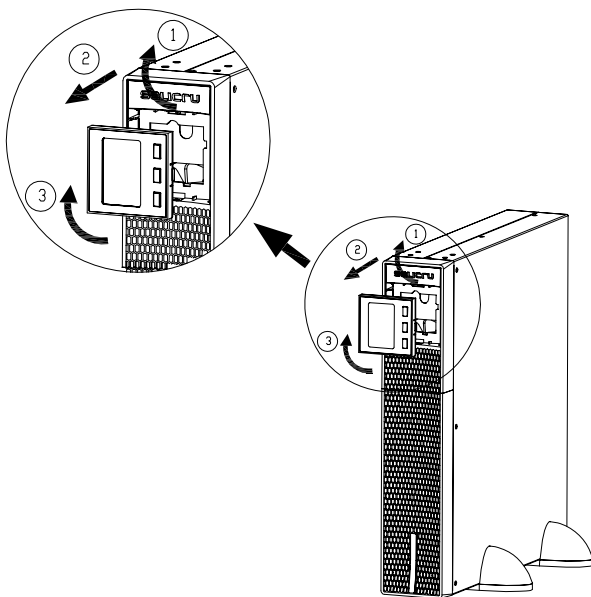

Fig. 5. Rotation of the control panel with LCD on the plastic front trim.
- Fig. 5 to 10 show, by way of example, illustrations of a device with or without battery module. These illustrations provide help and guidance on the steps to follow, but the instructions are not intended to refer to a single model, although, in practice, the actions to be carried out are always the same for all of them.